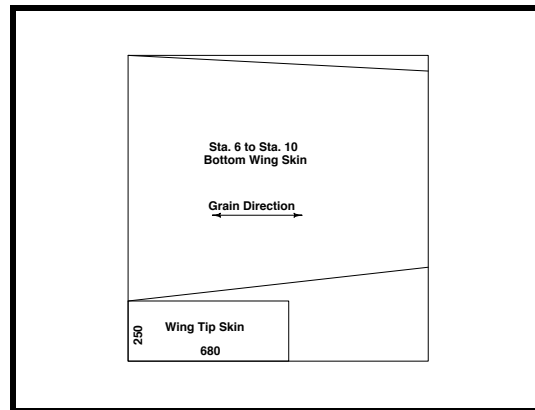

Figure 49
- ❑ Use two 50"x50" sheets of 1.5mm birch plywood as shown in Figure 49. Cut the wing tip skins and then cut the wing skin to fit the aircraft.